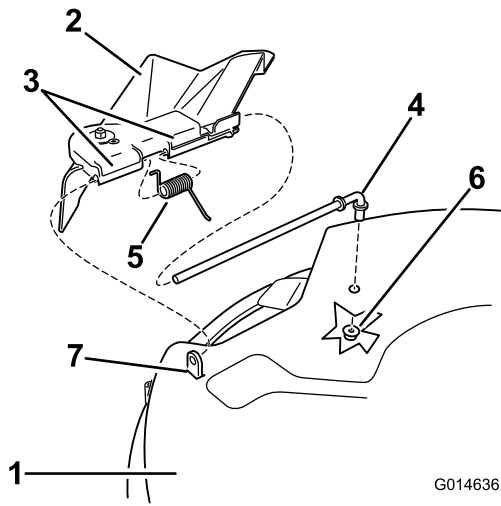

Figure 57
1. Remove the nut (3/8 inch) from the rod under the mower (Figure 57).
- Slide the rod out of the short stand-off, spring, and grass deflector (Figure 57).
- Replace the grass deflector (Figure 57).
- Slide the rod through the second grass-deflector bracket (Figure 57).
- Secure the rear end of the rod into the mower with a nut (3/8 inch) as shown in Figure 57.